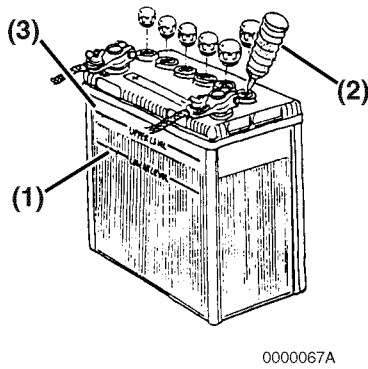

Figure 5-6
- When the amount of fluid nears the lower limit (**Figure 5-6, (1)**), fill with distilled water (**Figure 5-6, (2)**) so it is at the upper limit (**Figure 5-6, (3)**). If operation continues with insufficient battery fluid, the battery life is shortened, and the battery may overheat and explode. During the summer, check the fluid level more often than specified.